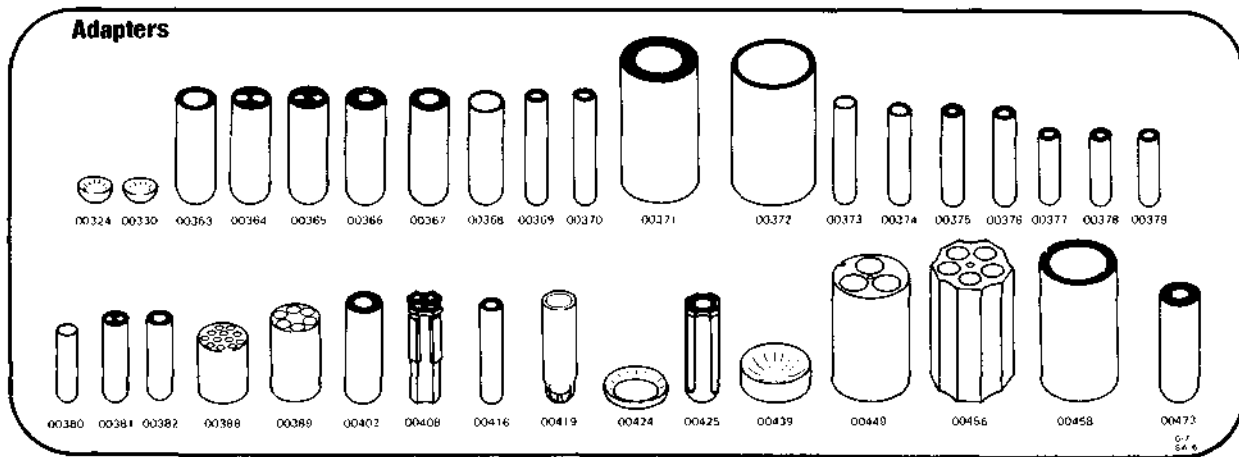

Figure 1-5. Adapters
- a. For Use in Rotor (Adapter) — Lists the rotor or rotors which will accept that tube or bottle. If an adapter is required to permit the rotor to accept the desired tube or bottle, a key number will follow the rotor initials in parentheses. Table 1-6, Adapters, lists the adapters by key number and provides part numbers and descriptions. Table 1-6 is keyed by part number to figure 1-5 which illustrates the adapters listed.